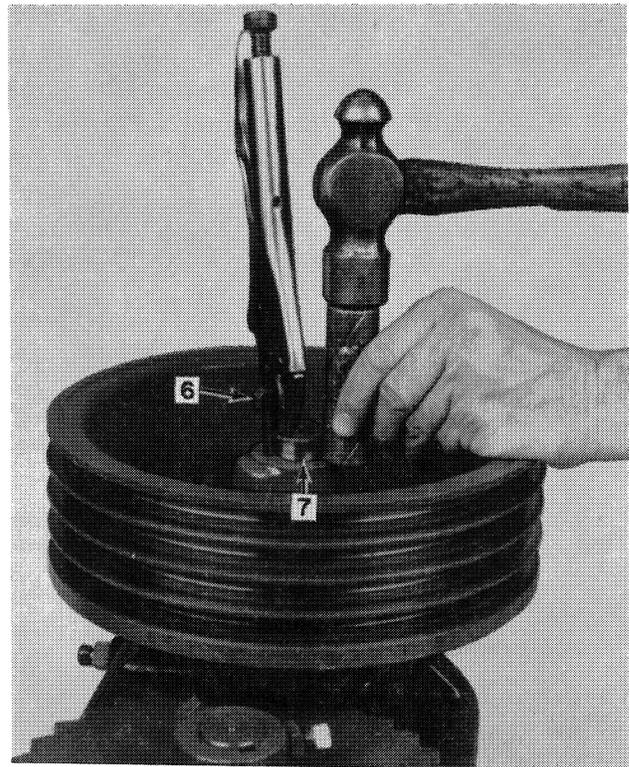

FIGURE 5
2. Support the **threaded end** of the input shaft on a wood block. Clamp the jaws of a good set of locking pliers over the gib key (6). The ends of the jaws must be tight against the end of the input shaft (7). See Figure 5. Drive the input sheave onto the shaft, until the hub is against the gear box housing or collar on the input shaft.